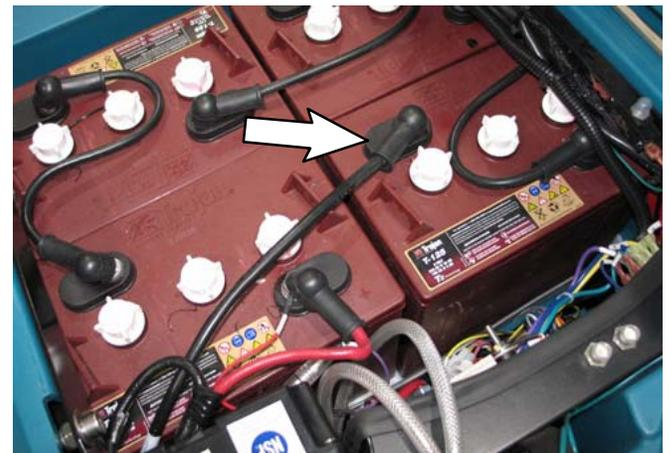

FIG. 27
29. Connect the negative battery cable from the shunt assembly to battery (FIG. 27)